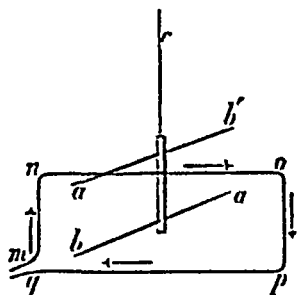

FIG 215
**The Astatic Galvanometer**—To detect feeble currents the astatic galvanometer is used. An *astatic needle* consists of two exactly equal magnetic needles,  $ab$ ,  $a'b'$  (fig 215), attached to the same axis, their poles in opposite directions and both in the same vertical plane, under the influence of the earth's magnetism such a needle would rest in any position, a needle cannot, however, be constructed perfectly astatic. If the lower needle be surrounded by a coil of wire  $mnpq$ , the action of the current both above and below will be to turn  $ab$  in the same direction;  $no$  tends to set  $a'b'$  also in this direction, while  $qp$  tends to set  $a'b'$  in the opposite direction, but  $qp$  being further removed from  $a'b'$  than  $no$  will have the less effect. The magnetism of the earth having such a small directive effect upon the needle, very feeble currents passing through the coil twist the needle.